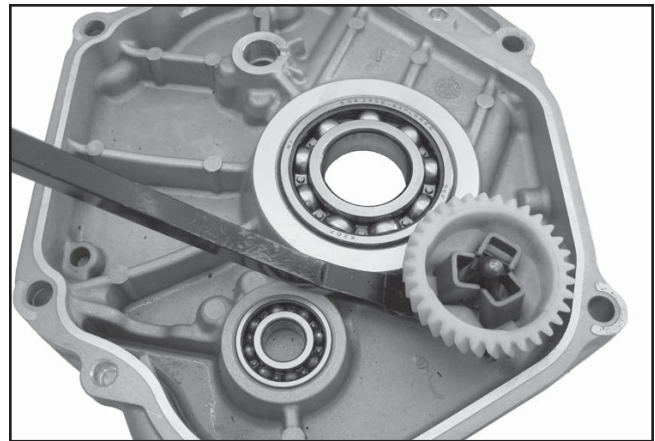

Figure 9-61. Pry Governor Gear to Remove.
1. The governor gear is located in the closure plate. To remove the governor gear, pry underneath the gear to lift it off the shaft. See Figure 9-61.